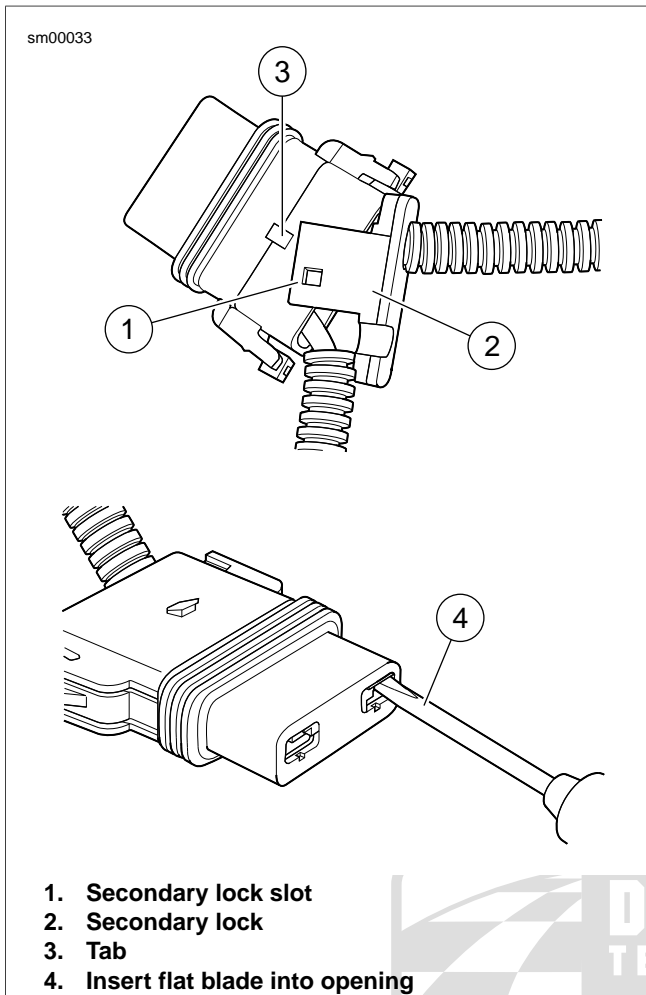

Figure A-29. Delphi Main Fuse Housing: Remove Socket Terminals
1. See Figure A-29. Gently pull socket housing to disengage slots (1) on secondary lock (2) from tabs (3) on socket housing. Free secondary lock from cables and set aside.
2. Take note of the opening on one side of the socket terminal. Gently insert flat blade of pick (Snap-On TT600-5) or small screwdriver into opening (4) until it stops. Pivot the pick toward the terminal body and hold in position.